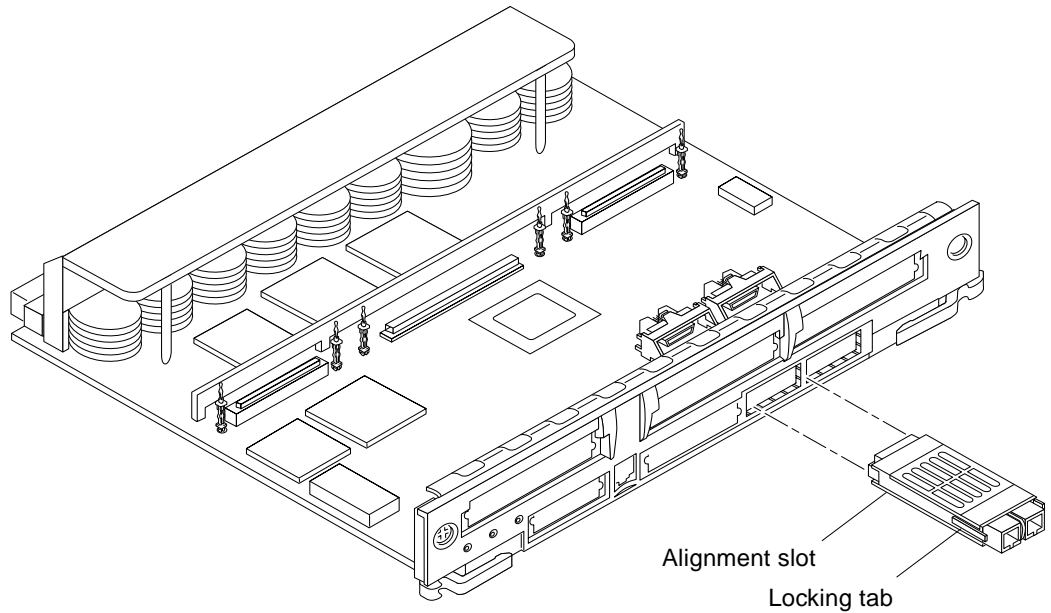

FIGURE 1 Removing or Installing a GBIC
1. **Locate the GBIC to be removed (FIGURE 1).**
2. Remove the GBIC from the I/O board by squeezing the locking tabs located on the sides of the GBIC and pulling it straight out from the opening in the I/O board panel (FIGURE 1).
1. Locate the GBIC slot for installation (FIGURE 1).
The alignment slots should be on the bottom of the GBIC (FIGURE 1).